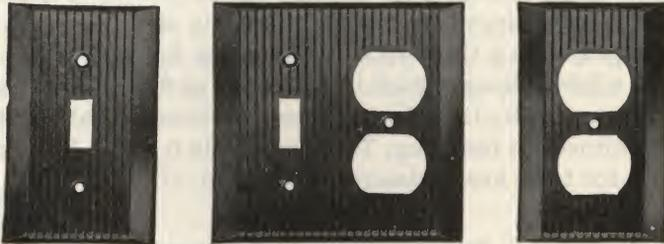

Fig. 8-20. Every switch and receptacle must be covered with a switch plate.
**Wall Plates:** Typical plates are shown in Fig. 8-20; they are available in plastic, brass, glass and other materials. The plastic is by far the most